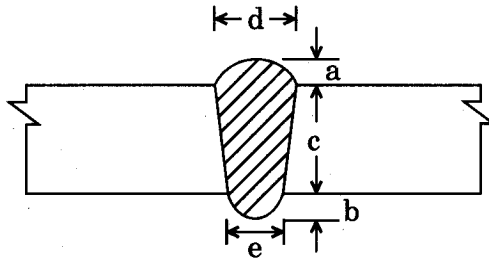

Figure 4
- (e) In the butt weld shown in Figure 4, the throat thickness is given by